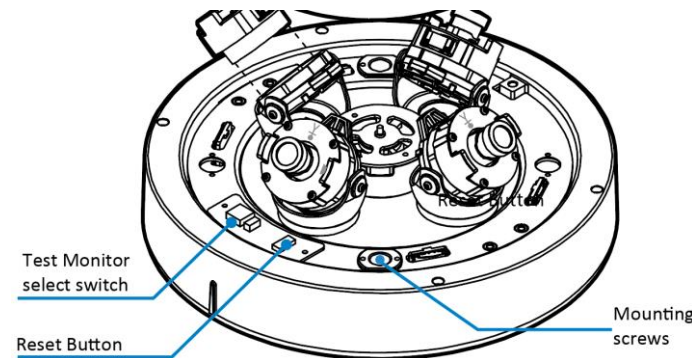

Figure 3
- To securely attach the camera base to the mount you must insert the two mounting screws provided with the mount into the two holes on the camera base (Figure 3).